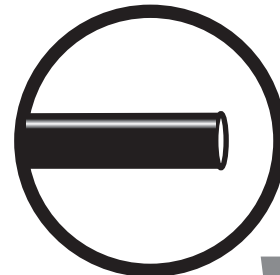

fig. 23
- a. Check the air line connection by deflating the spring and removing the line by pulling the collar against the fitting and pulling firmly on the air line. Trim 1" off the end of the air line. Be sure the cut is clean and square (see fig. 23). Reinsert the air line into the push-to-connect fitting.
2. If the preceding steps have not resolved the problem, call Air Lift customer service at (800) 248-0892.